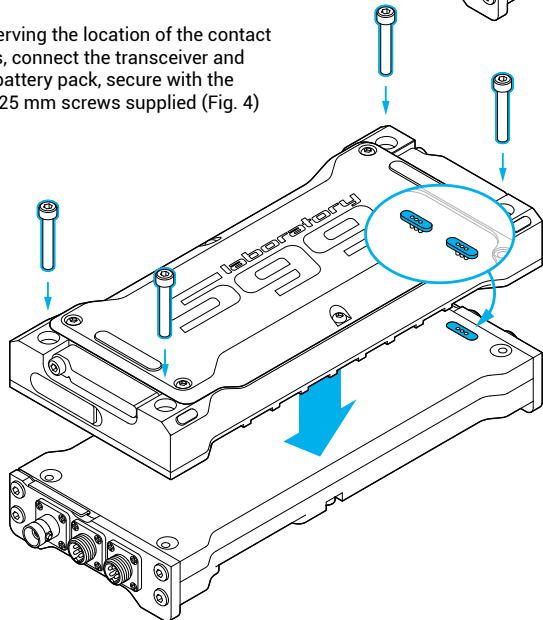

Fig. 4
2. Observing the location of the contact pads, connect the transceiver and the battery pack, secure with the M4x25 mm screws supplied (Fig. 4)